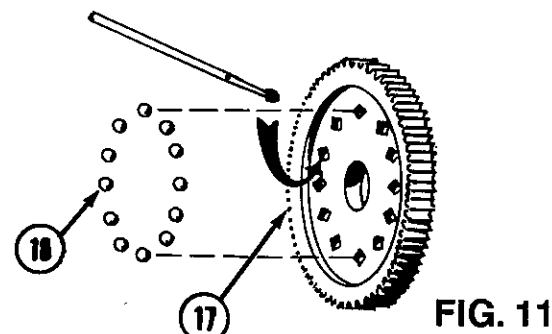

FIG. 11
2. Locate small white grease container (120) and open. Grease only items that are indicated. Keep grease away from teeth of transmission assembly. Locate center differential gear (17) from small bag. Fig 11.
3. Using a tooth pick, carefully dab a very small amount of grease into each hole in the center differential gear (17). Fig 11.
4. Insert 3/32" differential gear ball bearings (18) into holes in center differential gear (17). Fig 11.